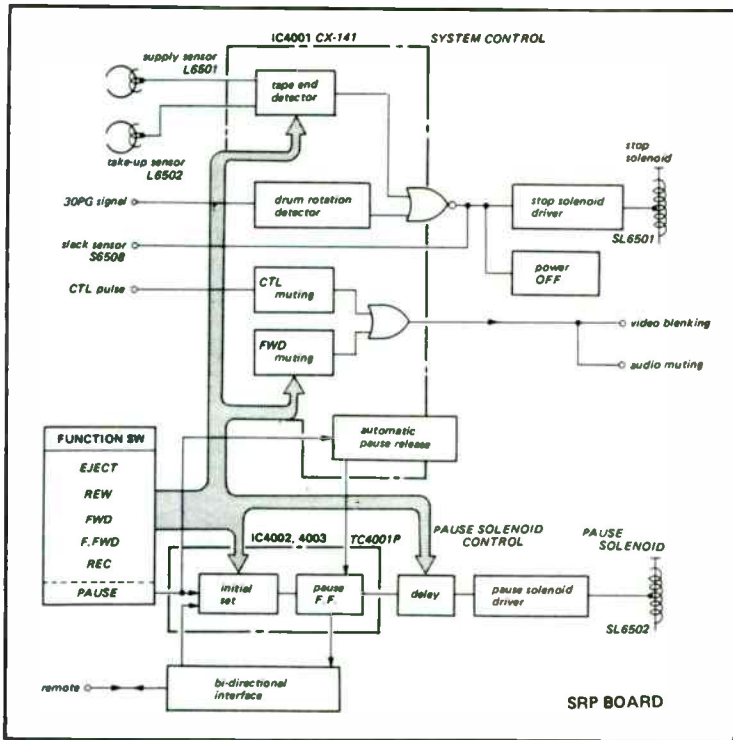

Fig. 4-1. VCR system control and pause control block diagram.
- 4—Place the VCR in the pause mode on command. Refer to Fig. 4-1 for block diagram of pause and system control.